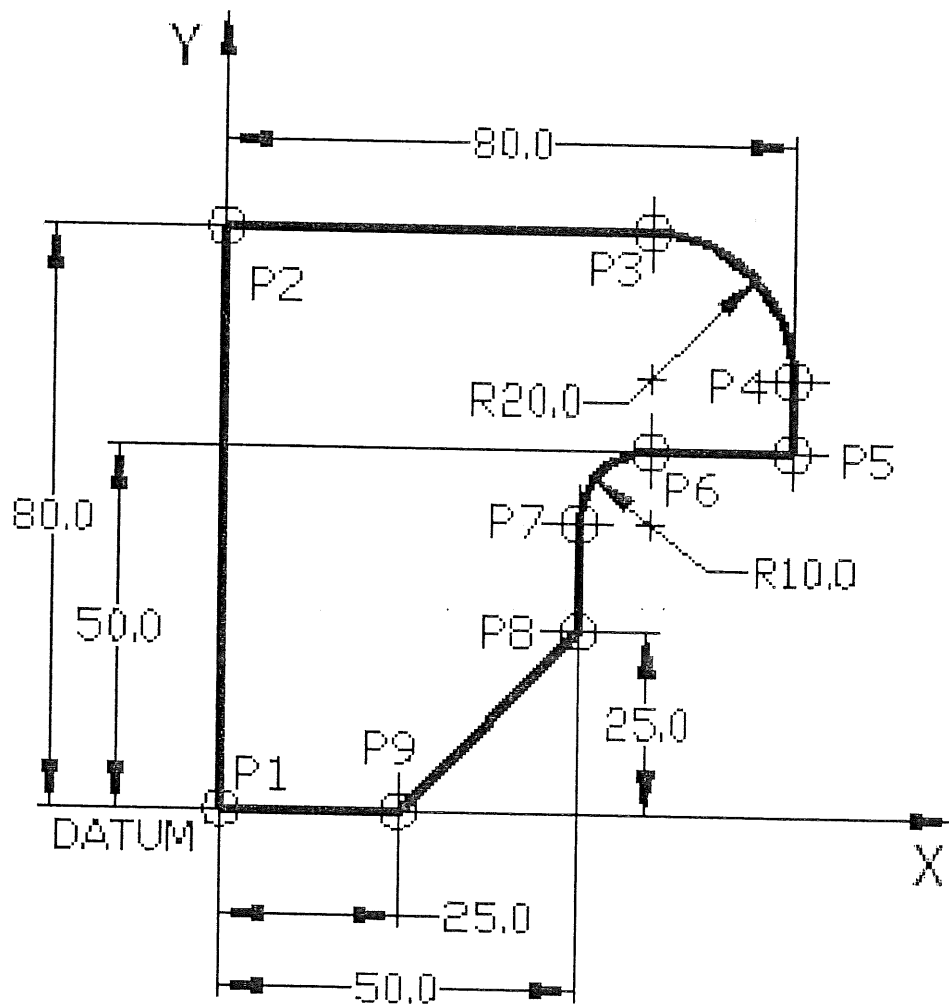

Figure 1
- a) The given drawing (Figure 1), determine coordinates of all points (Incremental and Absolute).